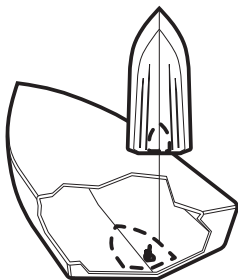

Figure 29
- As a general rule, the faster the boat can travel, the further aft and closer to the centerline of the hull the transducer has to be located in order to remain in contact with the water at high speeds (Figure 29).